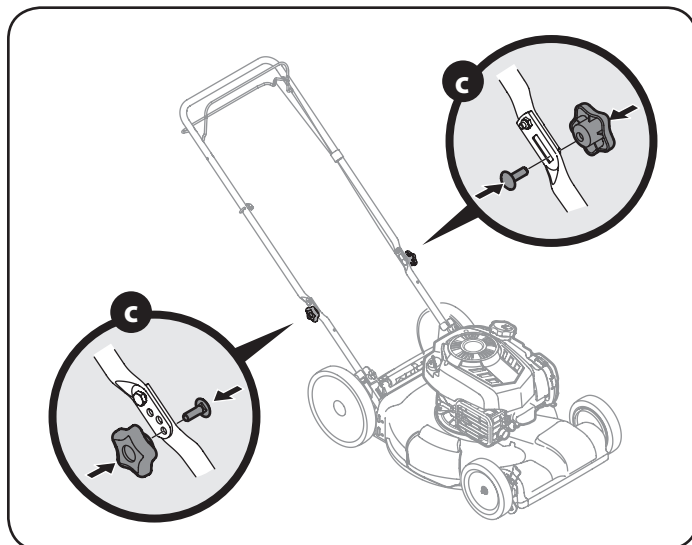

Figure 5
- Reattach wing nuts and carriage bolts removed in Step 1 into lower holes of handle as shown in Figure 5.